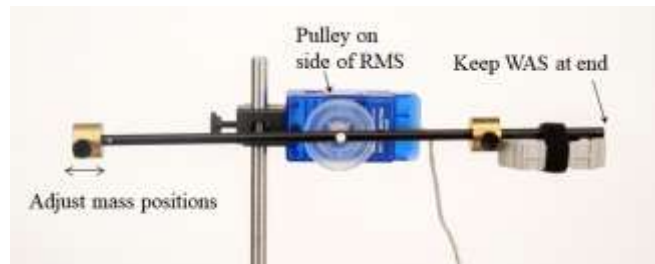

Figure 4: Balancing the Masses
7. With the pulley on the side, mount the RMS at the top of the 45-cm rod. See Figure 4. With the pendulum rod horizontal, adjust the positions of the brass masses slightly to balance the pendulum rod. When you let go of the pendulum rod, it should remain horizontal.